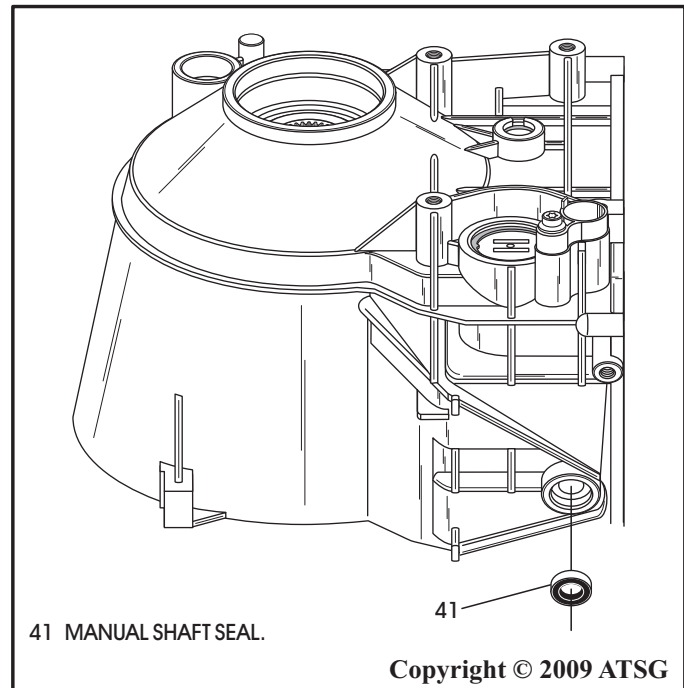

Figure 59
8. Install new manual shaft seal into case bore using the proper driver (See Figure 59).